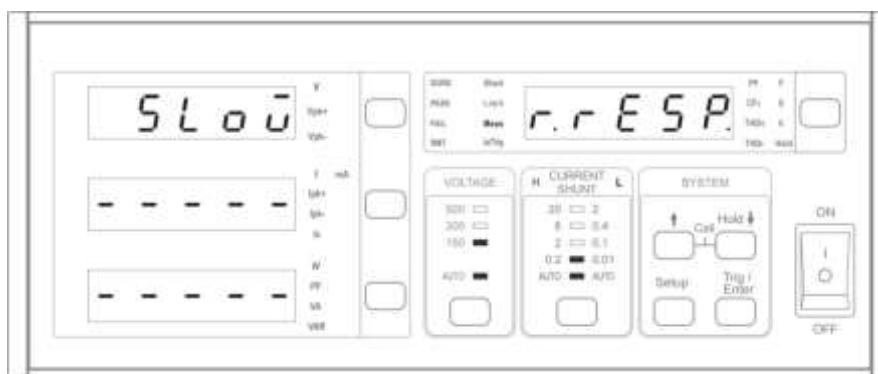

Figure 4-26 Setting R.RESP Parameters
2. In the special measurement display a blinking pattern will appear. Use $\uparrow$, $\downarrow$ to select r.rESP and press **Trig/Enter** to save the setting and go to R.RESP mode as shown in Figure 4-26.